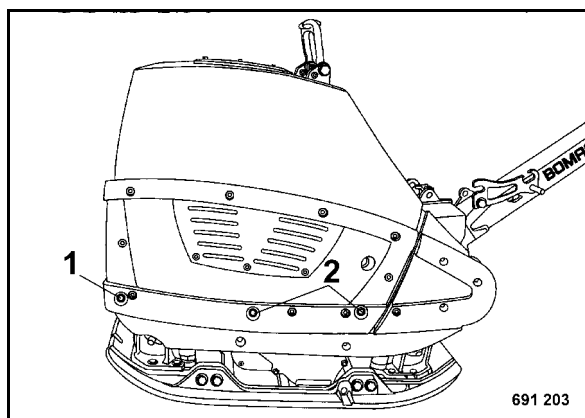

Fig. 77
- Loosen the hood fasteners (1) on both sides and remove the fasteners (2) from both sides (Fig. 77).